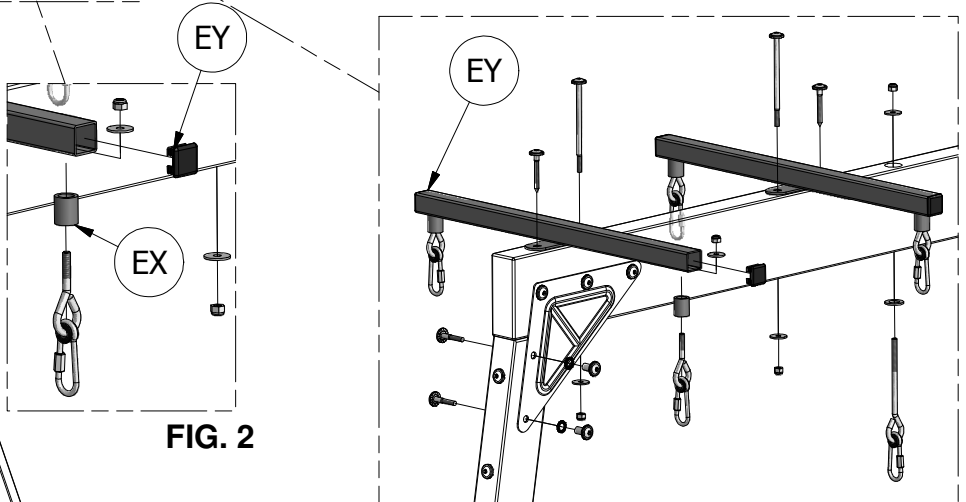

FIG. 2
INSERT (4) SWING HANGER QUICK LINKS INTO (4) EX BUSHINGS AND THEN ATTACH SWING HANGER QUICK LINKS TO EW GLIDER SUPPORTS USING (4) FLAT WASHERS AND 5/16" LOCK NUTS, AS SHOWN (FIG.2).
INSERT (4) EY GLIDER SUPPORT CAPS INTO THE ENDS OF EW GLIDER SUPPORTS, AS SHOWN (FIG.2).